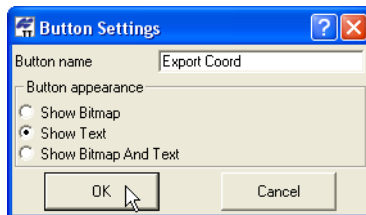

Figure 1-28. Apply Button Settings
2. On the *Button Settings* dialog box, type a name for the button (or use the default name) (Figure 1-28).
3. Select a *Button appearance* (Figure 1-28):